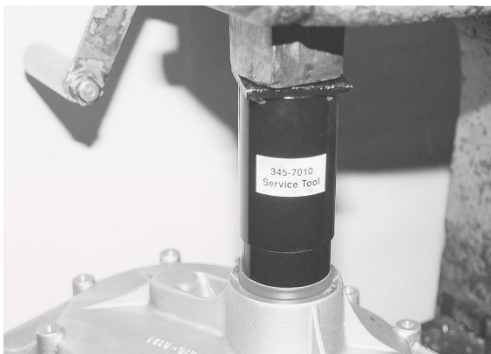

FIGURE 33
17. Position transmission case on shop press with bottom of case facing up. Make sure case is not supported on any alignment dowel pins. Use Service Tool to press oil seal/driveshaft assembly into transmission case until firmly seated against machined shoulder. FIGURE 33